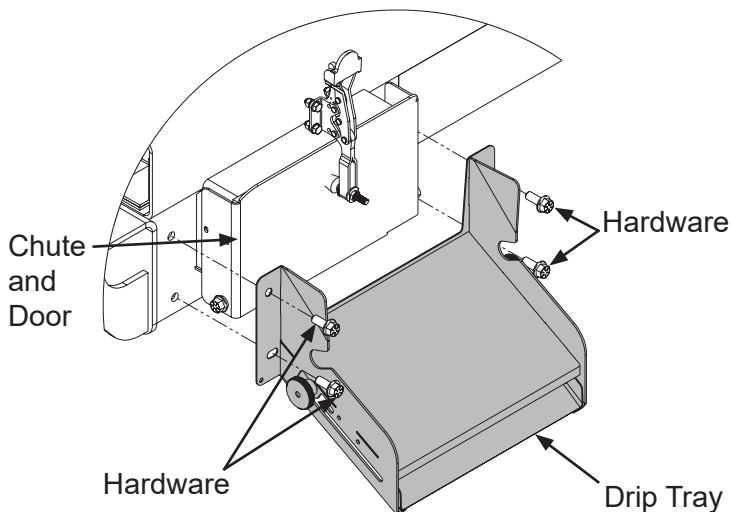

Figure 6
- If the vehicle is a Volterra® ZSL® side loader, reinstall the drip tray and its hardware (Figure 6). Securely tighten all hardware.